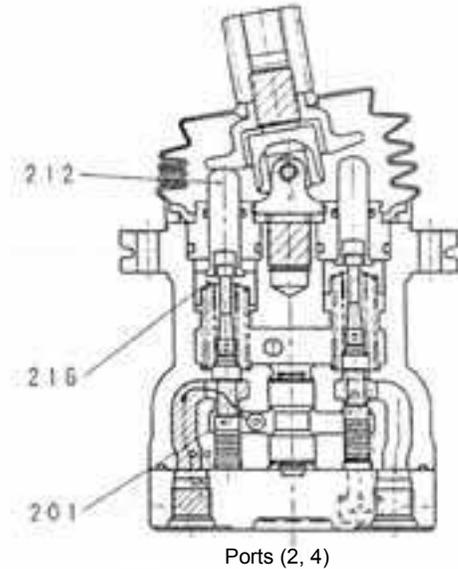

Fig. 3 Steering Wheel Being Inclined
- 2) When the steering wheel is inclined (See Fig. 3.)